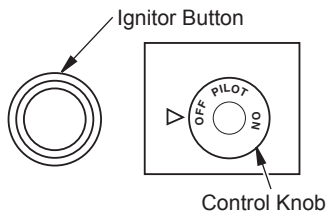

Figure 24 - Control Knob and Ignitor Button Location
5. Wait five (5) minutes to clear out any gas. Then smell for gas, including near the floor. If you smell gas, STOP! Follow "B" in the safety information, column 1. If you don't smell gas, go to the next step.
6. Press in and turn control knob counter-clockwise  to the PILOT position. Press in control knob for five (5) seconds (see Figure 24).